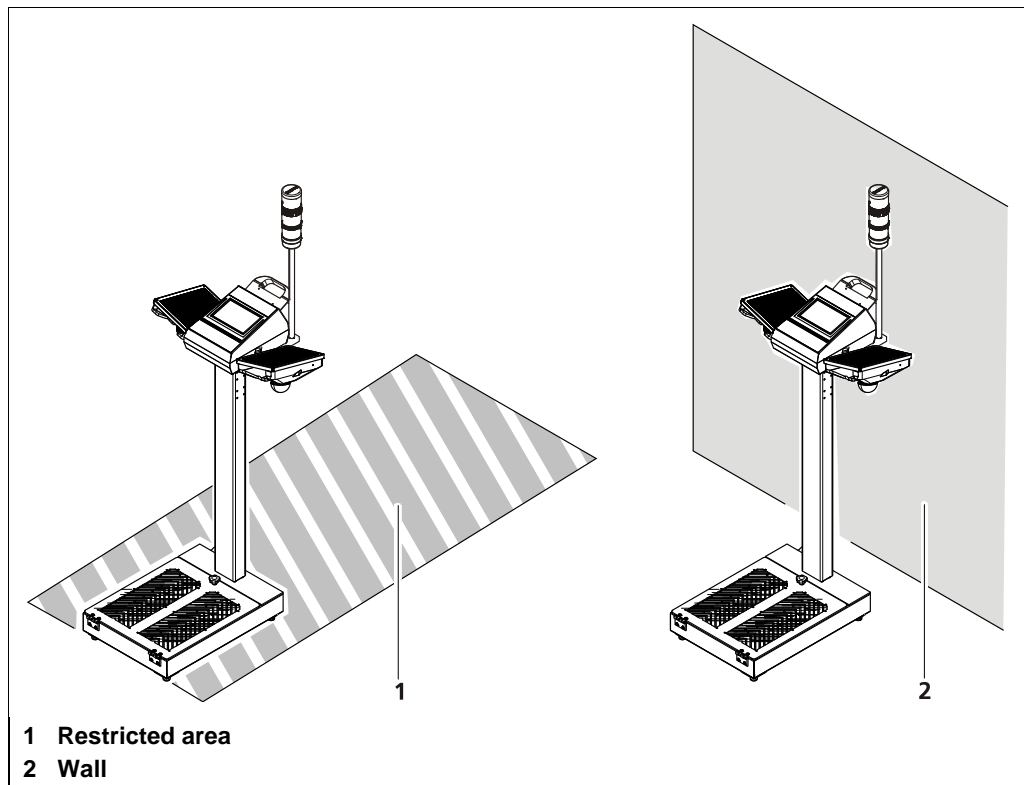

Fig. 4 Setting up the system
- ▶ Secure the area behind the device by setting up the device with its back directly to the wall (Fig. 4, item 2) or by guarding off the rear area (Fig. 4, item 1) or by blocking access to this area.